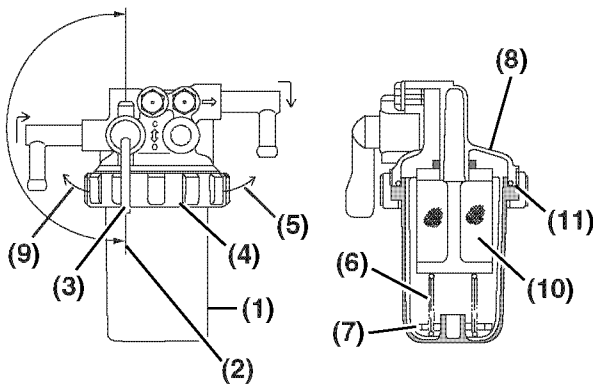

Figure 17
1. Position an approved container under the cup (**Figure 17, (1)**) of the fuel filter / water separator to collect the contaminants.
2. Close (**Figure 17, (2)**) the fuel cock (**Figure 17, (3)**).
3. Turn the retaining ring (**Figure 17, (4)**) to the left (**Figure 17, (9)**).
4. Carefully remove the cup (**Figure 17, (1)**). Remove the retaining spring (**Figure 17, (6)**) and float (**Figure 17, (7)**) from the cup. Pour the fuel into an approved container and dispose of waste properly. Hold the bottom of the cup with a shop towel to prevent the fuel from dripping. Wipe up any spills immediately.
6. Remove the mesh filter (**Figure 17, (10)**) by pulling it down.
8. Inspect condition of the O-ring (**Figure 17, (11)**). Replace if necessary.
9. Put the float (**Figure 17, (7)**) and retaining spring (**Figure 17, (6)**) inside the cup.
10. Install the cup to the mounting flange (**Figure 17, (8)**) and turn the retaining ring (**Figure 17, (4)**) to the right (**Figure 17, (5)**). Hand-tighten only.
11. Open the fuel cock (**Figure 17, (3)**).